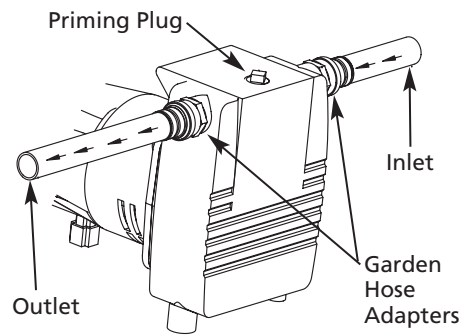

Figure 2
6. Figure 2 shows a typical installation. Threaded adapters for connecting garden hose are included, however, when using flexible hose as the suction line, **only use reinforced hose to avoid hose collapse during operation.**